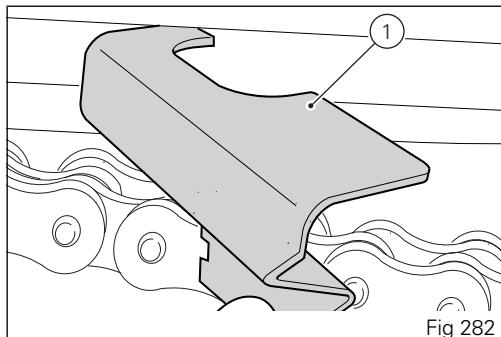

Fig 282
Chain tension gage (1) must be inserted between swinging arm and lower chain sliding shoe, at the chain sliding shoe central fastening point (Fig 282).